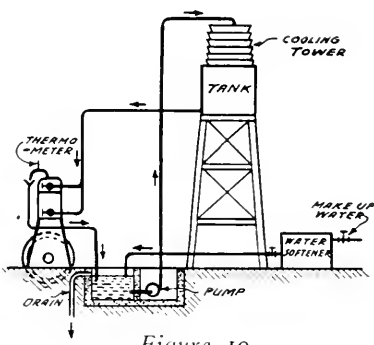

Figure 10.
2. The recirculating type (see Figures 10, 11 and 13).